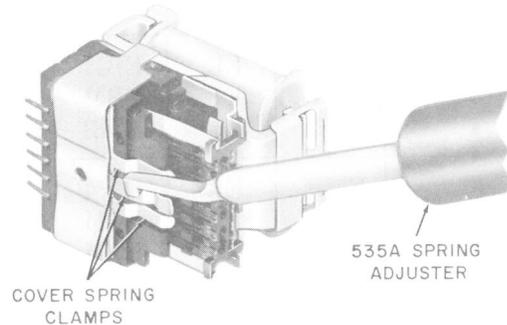

Fig. 8—Adjusting Clamps of Cover Spring
- (1) If the contact cover is not satisfactorily held in place on the relay, remove the cover and adjust the clamps of the cover spring as required, using the 535A spring adjuster (see Fig. 8 and paragraph 1.03).